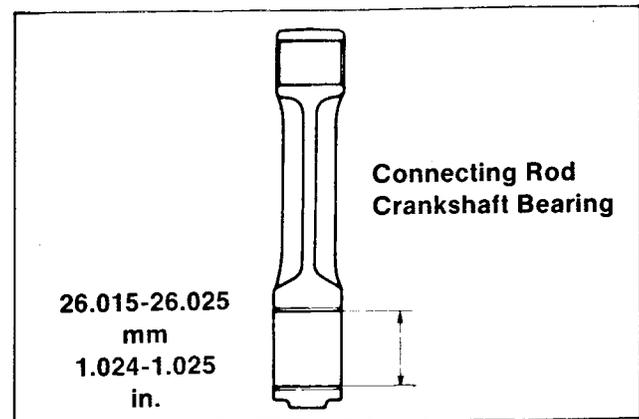

Figure 4-35
1. Measure the inside diameter of the connecting rod crankshaft bearing. The diameter should be 26.105 — 26.025 mm (1.024 — 1.025 in.) See Fig. 4-35.